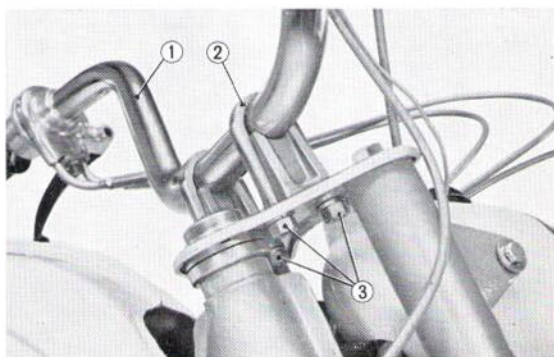

Fig. 4.14 ① Handle pipe ③ Handle pipe holder nut
1. Disconnect respectable cables, unscrew the four 8mm handle pipe holder nut and remove the handle pipe. (Fig. 4.14)